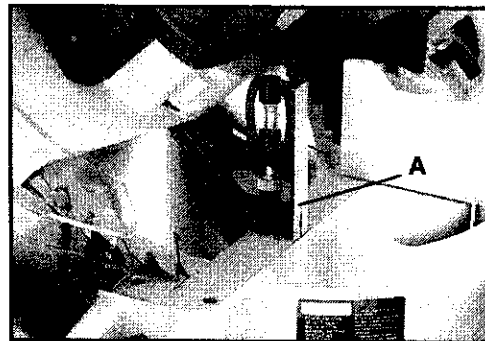

Fig. 29
7. Use a square (A) Fig. 29, to see if the blade is at 45 degrees to the table.